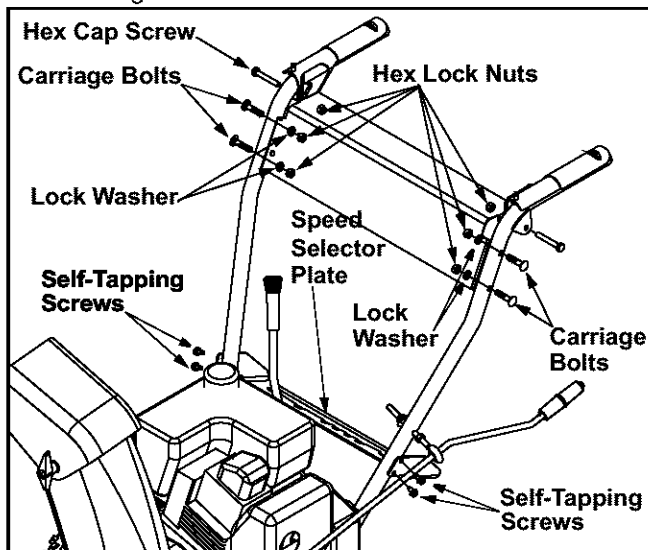

Figure 7
- Position the handle panel between handles and insert two carriage bolts on each side and secure with lock washers and hex patch nuts. See Figure 7.